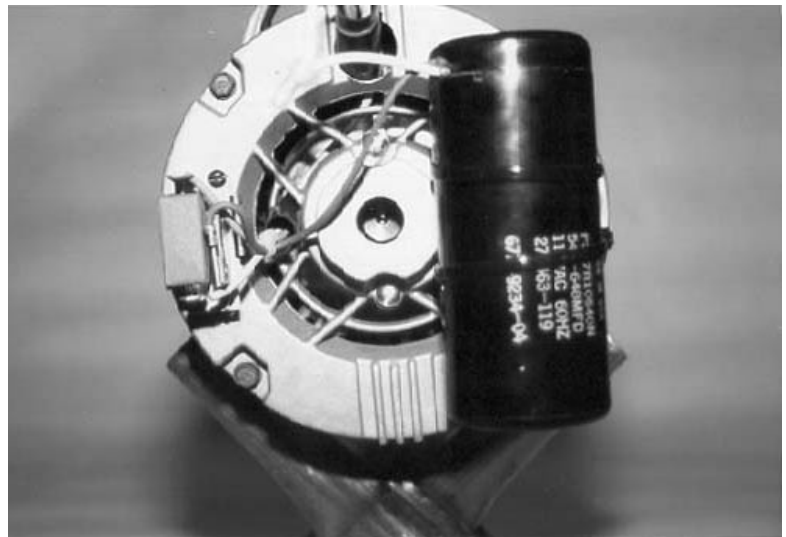

Figure X-4 LM start switch and capacitor location - 1-2 HP single phase Franklin motors only.
- E. On 1 and 2hp single phase units, a capacitor and a start switch is used** (Fig X-4). 3hp single phase units have only a capacitor. If it is determined that these are the only components defective; replace these components at this time. To check the start switch,